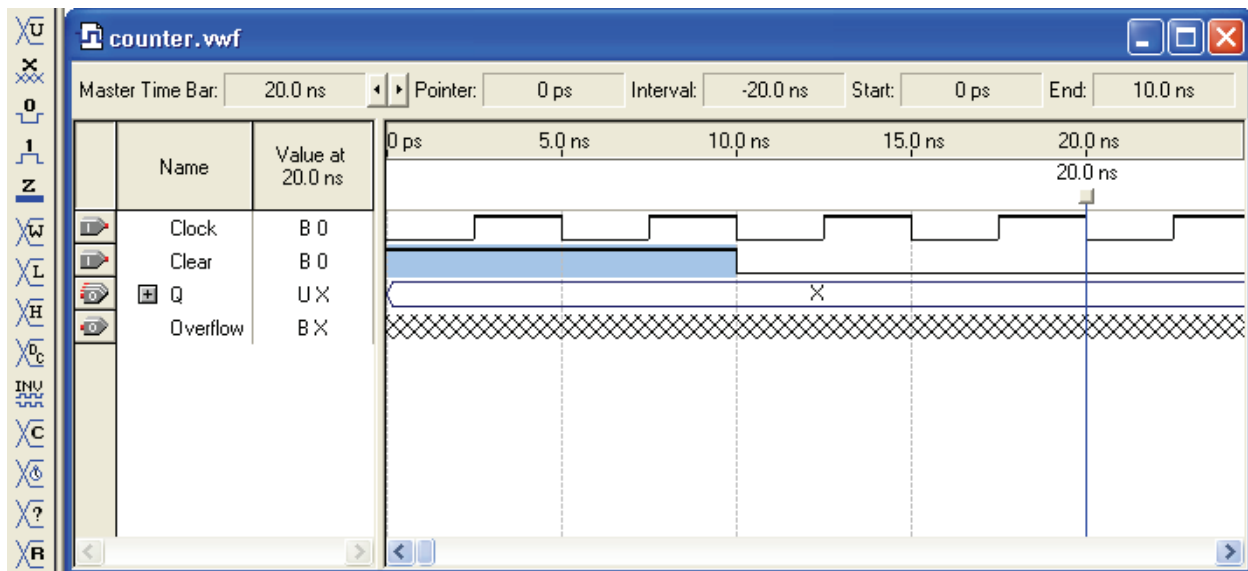

Figure B.9 Changing the input signal values.
2. Click on the **Clock** icon  in the toolbar on the left to define the `Clock` signal. Leave the time period at 5.0 ns. Click **OK**, and observe the changes made to the `Clock` signal as shown in Figure B.9.